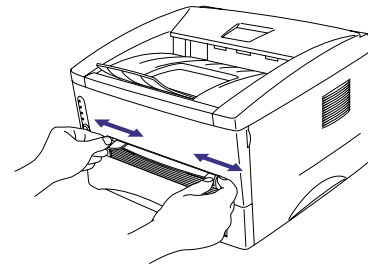

Fig. 2-23
- (1) Select the manual feed mode in the printer driver, and send the print data to the printer.
- (2) Set the width of the manual feed slot paper guides using both hands to the paper width to be used. (Fig. 2-23)